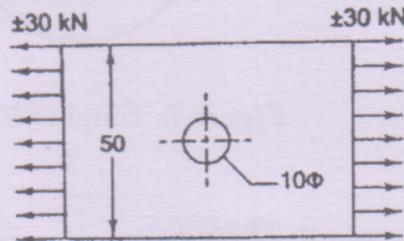

Figure 2: A flat plate subjected to reversed load
(b) A 20 C8 steel plate ($S_{ut} = 440 \text{ N/mm}^2$) in hot rolled and normalized condition is shown in the fig 2. It is subjected to a completely reversed axial load of 30 kN. The notch sensitivity factor is 0.8 and the expected reliability is 90%. Factor of safety is 2. The size factor is 0.85. Determine the plate thickness for infinite life. (10)